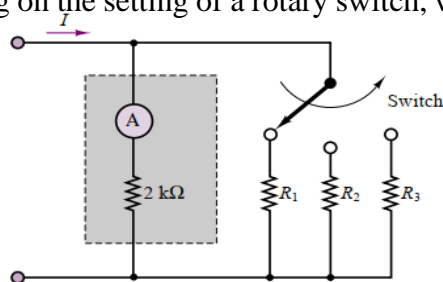

Figure 4
4. Consider the practical ammeter, diagrammed in figure 4 below, consisting of an ideal ammeter in series with a $2\text{-k}\Omega$ resistor. The meter sees a full-scale deflection when the current through it is $50\mu\text{A}$. If we wished to construct a multi range ammeter reading full-scale values of 1 mA , 10 mA , or 100 mA , depending on the setting of a rotary switch, what should R_1 , R_2 , and R_3 be?